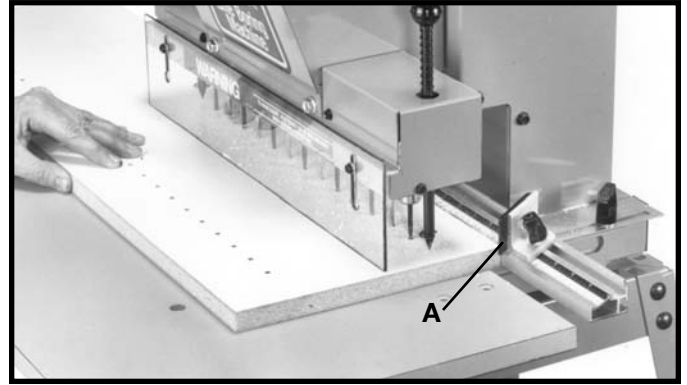

Fig. 63
1. Figure 63 illustrates a typical line boring operation being performed on a workpiece. Note that the right end of the workpiece is positioned against the fence stop (A) and 13 holes are being bored with a 32mm center distance between each hole.